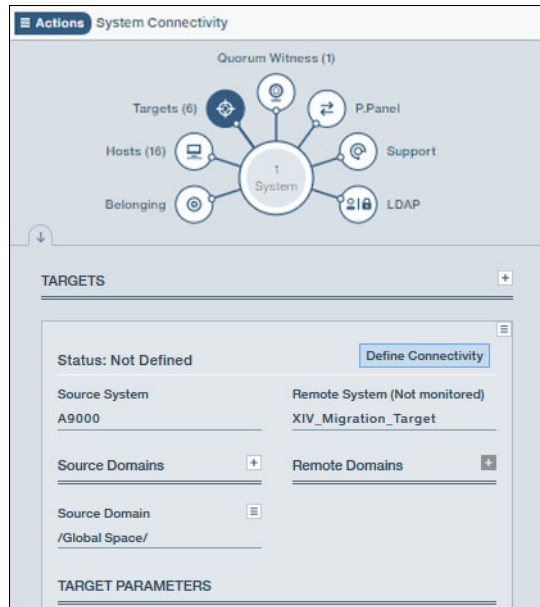

Figure 8-35 Defining connectivity in IBM FlashSystem A9000
4. After the target is defined, the target appears in the System Connectivity window, as shown in Figure 8-35. Select **Define Connectivity** to define the FC connections.